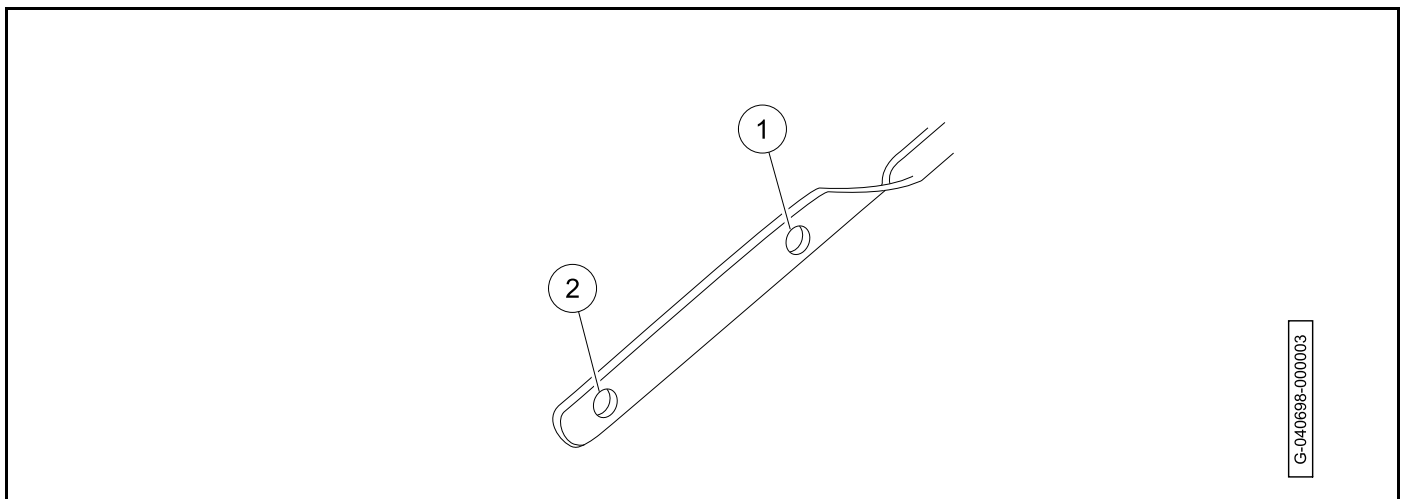

Figure 10-11 Dipstick Indicators
2. Add engine oil until the oil level is between the maximum (1) and minimum (2) indicators (Figure 10-11, Page 10-15).